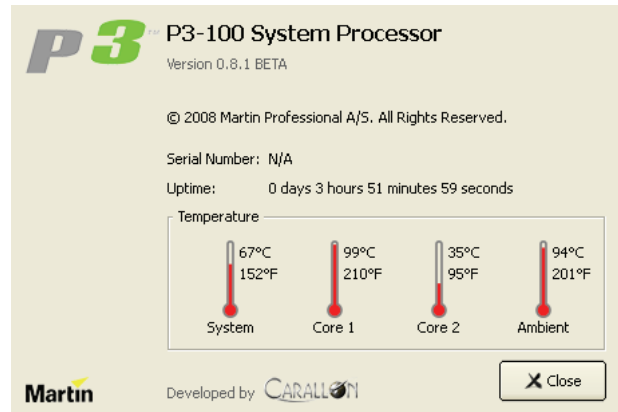

Figure 30: System and hardware info
3. See Figure 30. The P3-100's firmware version, serial number, uptime (resets at power on) and hardware temperatures are displayed in a pop-up window.